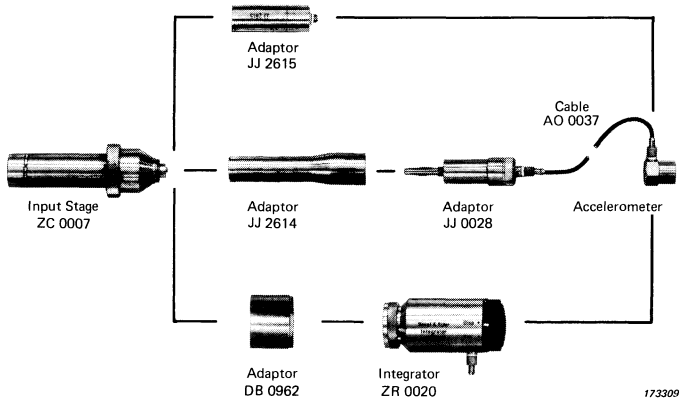

Fig. 3.1. Connection of Accelerometer and Integrator to 2209
3. Attach the Accelerometer and Integrator (if required) as shown in Fig. 3.1.
3. Attach the Accelerometer and Integrator (if necessary) as shown in Fig.3.1.